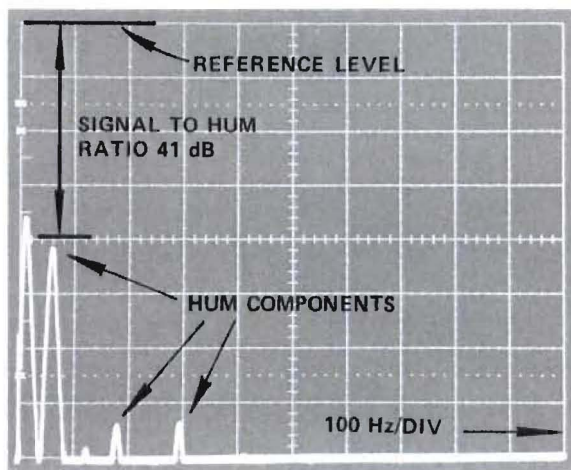

Figure 37 Example of S/N and Hum Measurements
5. The difference in amplitude (Figure 37) between the signal reference level and the noise floor, less a correction from the measured bandwidth (3 kHz) to the desired bandwidth (15 kHz), is the signal to noise ratio. The correction factor to be subtracted is 7 dB. Example: S/N equals VS minus VN minus Correction Factor; S/N equals 0 dB - 72 dB - (-7 dB) = -65 dB (S/N).
2. Signal to hum ratio can be determined by measuring the amplitude difference between the Signal Reference Level (step 3) and any 60 or 120 Hz hum components. An example is shown in Figure 37.